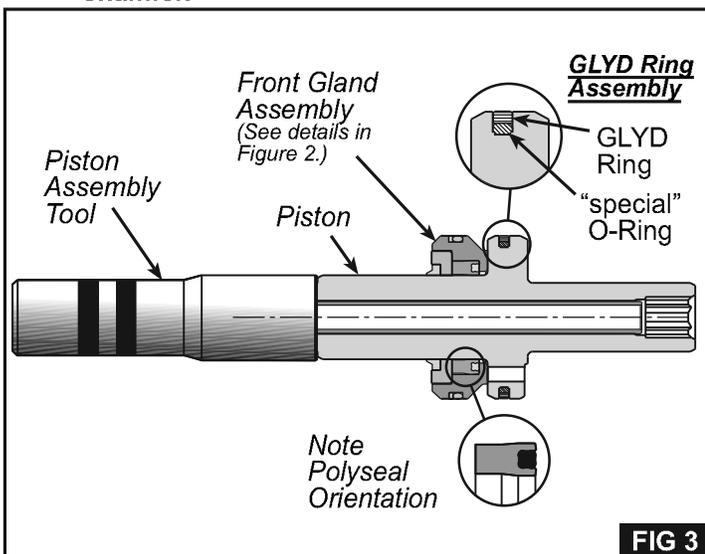

FIG 3
1. Install GLYD Ring Assembly (9) on Piston (1). [Place the special O-ring in groove; place GLYD Ring on top of it. Roll GLYD Ring's diameter to a diameter smaller than Piston before installing ring. This is to insure that ring stays in place during Piston installation.] (Figure 3)
2. Thread Piston Assembly Tool 123111 onto Piston (1). **Note: Do not install Spacer,** (Figure 3)
3. Push Front Wiper Housing (4) into Front Gland (8). Taking care not to pinch inner ring of Polyseal (7), press it into Front Gland. Lubricate inside diameter of Polyseal and outside diameter of Piston (1). While holding Wiper Housing in place, guide Front Gland/Polyseal onto Piston. **CAUTION: Be sure that seal does not hang up on edge of Piston chamfer.**